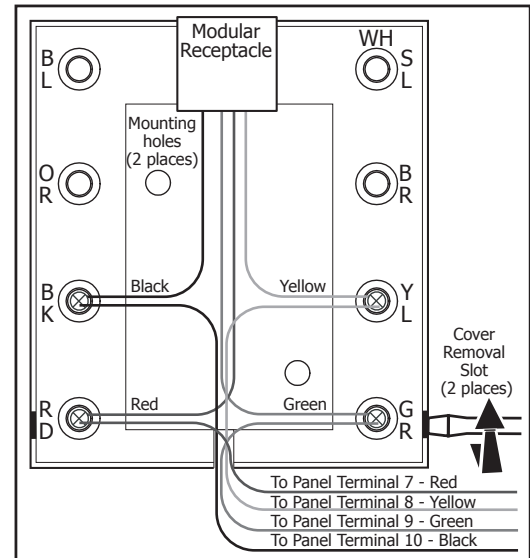

Figure 4: Wiring Detail
3. Connect the Red, Yellow, Green, and Black wires from Panel Terminals 7, 8, 9, and 10 to the wiring block as shown in Figure 4.